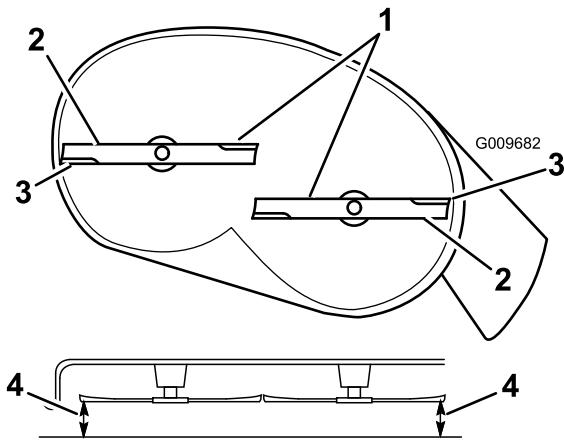
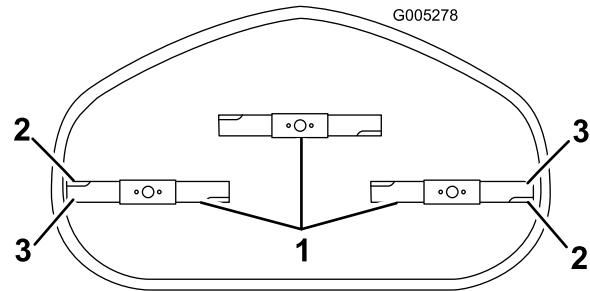

Figure 48
Figure 49
4. Carefully rotate the blades so that they are all side to side (Figure 48 and Figure 49).
5. Measure between the outside cutting edges and the flat surface (Figure 48 and Figure 49).